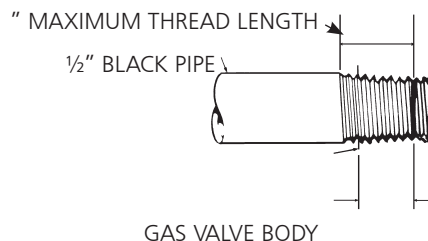

Figure 2. Gas valve connection requirements
- Male threads on pipe to be installed into gas valve shall meet the requirements of Figure 2. Threads longer than those shown in the figure may cause gas valve distortion and malfunction.
When a higher than the maximum recommended gas pressure is being maintained at the main gas line, a separate regulator must be installed ahead of the heater. Refer to Figure 2 for maximum allowable pressure for stated model and gas.